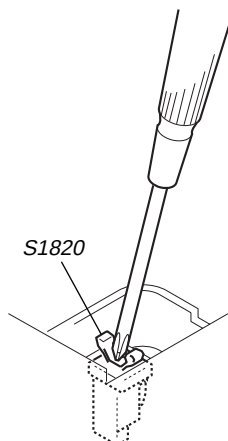

Fig.1 Method to push the S1820
2. Push the S1820 as shown in Fig.1.